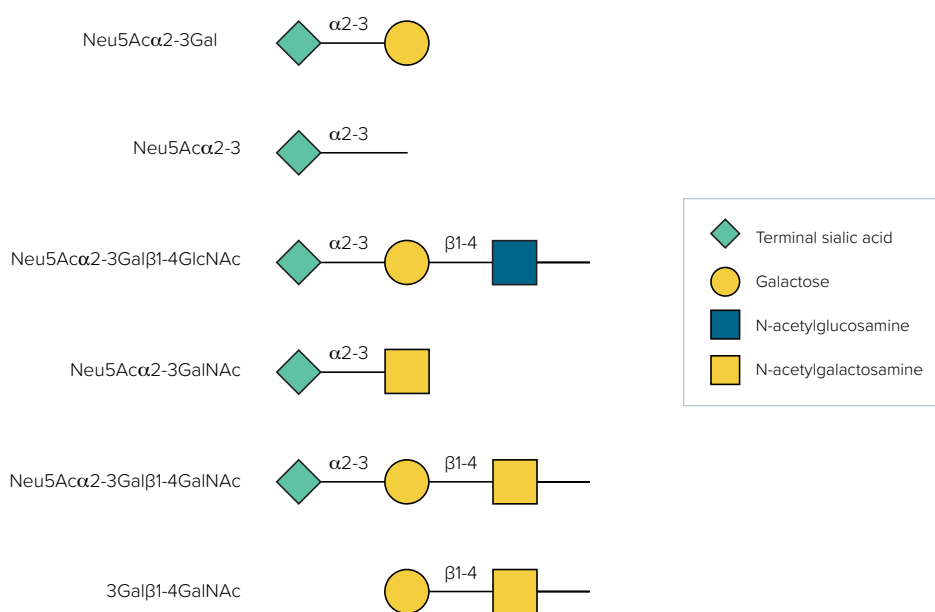

Figure 2-1: Preferred binding specificity of pre-immobilized lectin on GlyS biosensors towards different oligosaccharides.
- **Binding specificity.** GlyS biosensors are pre-immobilized with a lectin that has high binding specificity towards O-linked terminal sialic acid in addition to other forms. Unlike typical antibody-antigen interactions, lectin-glycoprotein bindings are heterogenous and there may be non-specific binding. The preferred binding specificity of the pre-immobilized lectin on GlyS biosensors is shown in Figure 2-1 with it exhibiting highest preference towards the fifth structure.